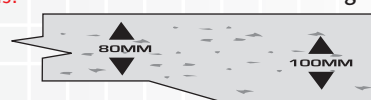

Fig. 2
Step 2 - Ensure that the base substrate is compacted firmly. We suggest that the slab should be 80mm thick in the middle and 100mm thick around the edges (Fig 2).